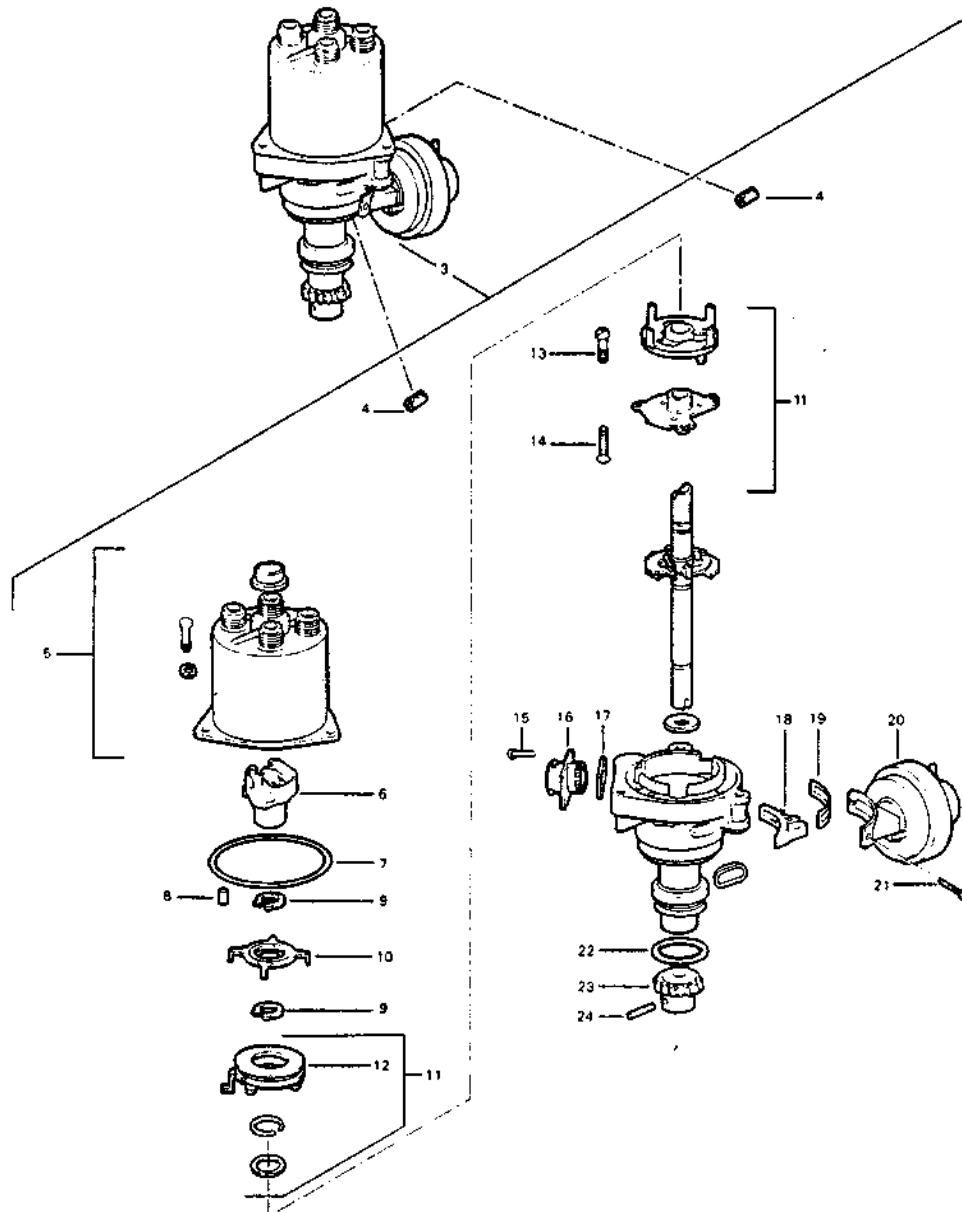

Figure 1 Distributor assembly
3.1.7 Upon completion of rebuild, the carburetor shall consist of all components listed in Table I. Figure 1 and 2 are provided for component identification and location within the carburetor.
3.2 Carburetor components.- Table I lists all the components of the Solex 1-B-1 carburetor; refer to Figures 1 and 2 for component identification and location within the carburetor.
3.3 Mandatory parts replacement.- Table II lists parts that are contained in the carburetor overhaul kit and shall be installed in the carburetor at time of rebuild; refer to Figures 1 and 2 for component identification and location within the carburetor.